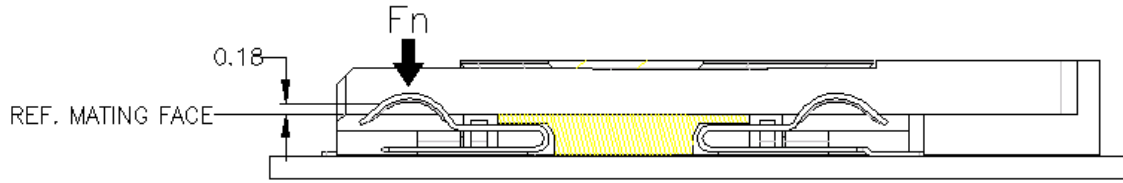

Figure 3.
3.6.2 The actual Phone Hand-sets shall be used for Mechanical Operation, Vibration and Physical Shock tests or else test frame(s) shall simulate the actual application as indicated in figures 3(slide insertion).